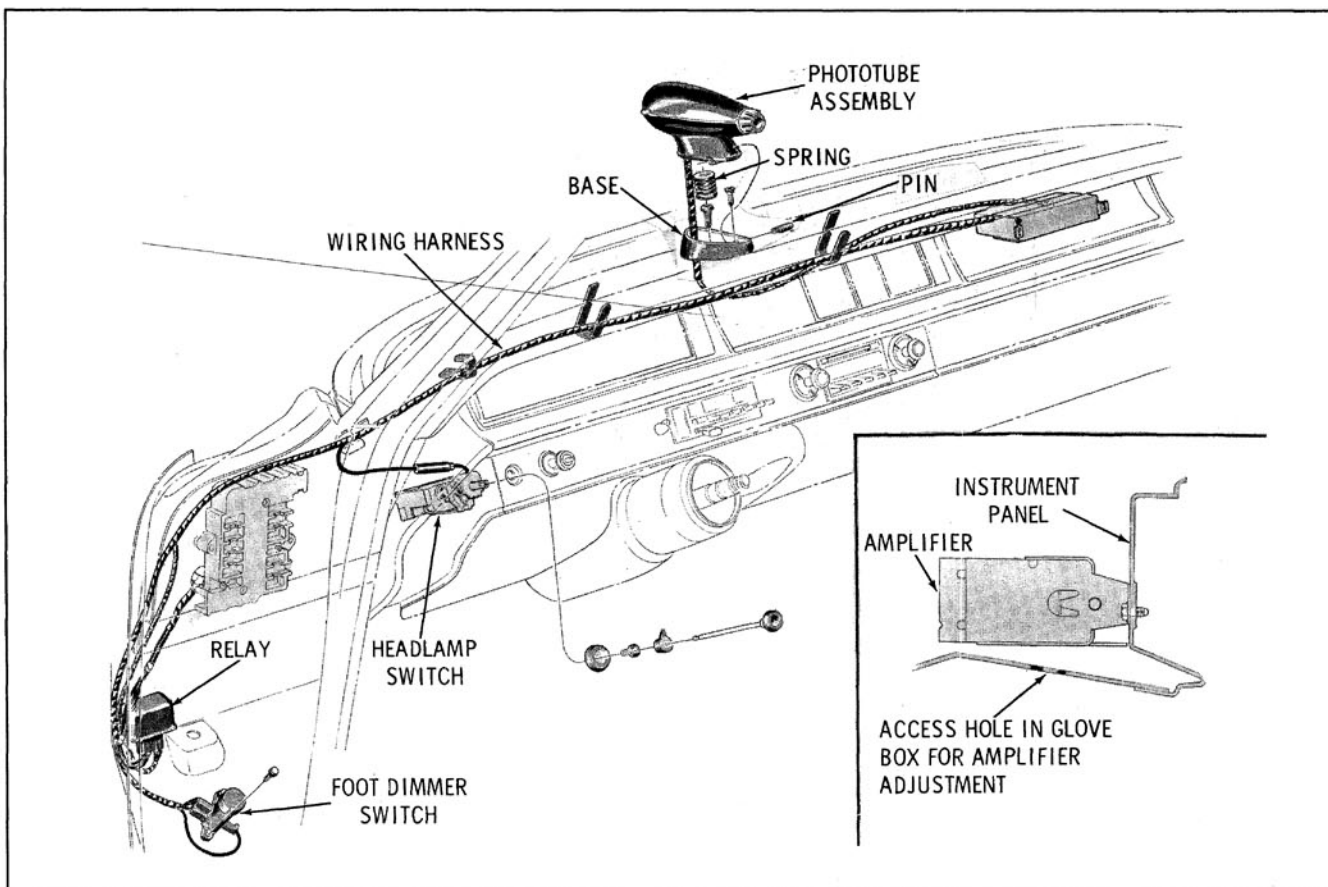

Fig. 12-53 Guide-Matic Installation
The Guide-Matic Power Headlight Control consists of: the phototube, amplifier unit, power relay, and a combination override and foot dimmer switch. (Fig. 12-53)
1. Disconnect the phototube unit harness plug from the amplifier. (Fig. 12-53)
Matic "off-on" switch terminal on the headlight switch. (Fig. 12-53)